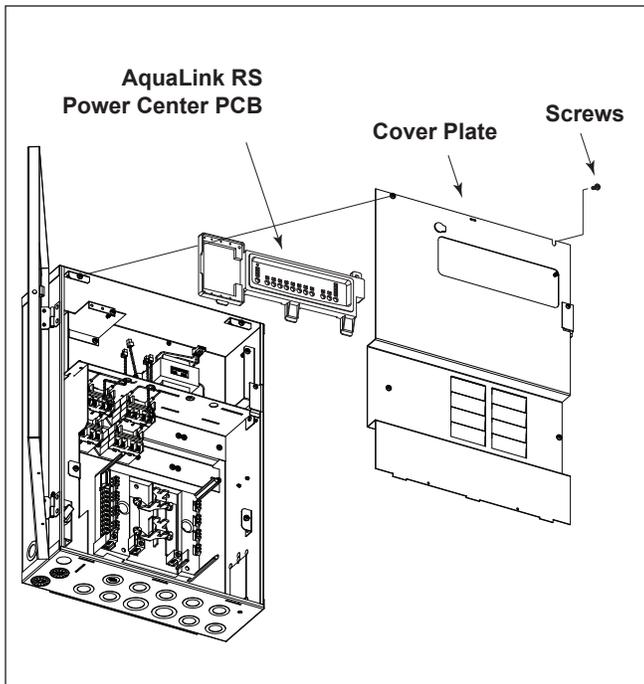
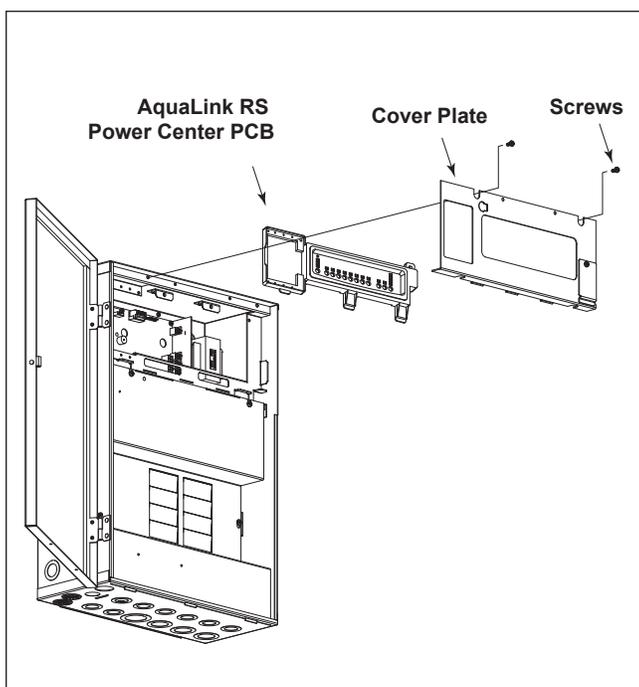

Figure 1. Power Center Model 6613/6614
Figure 2. Power Center Model 6613AP/6614AP
- a. Remove the top two (2) screws that secure the cover plate to the power center. Remove the cover plate as shown in Figure 1.
- a. Remove the two (2) screws from faceplate as shown in Figure 2, and fold down the faceplate/bezel assembly to reveal the back of the power center PCB.
11. Remove all seven (7) screws that secure the PCB to the bezel.
- b. Remove the two (2) screws that secure the plastic power center bezel assembly.